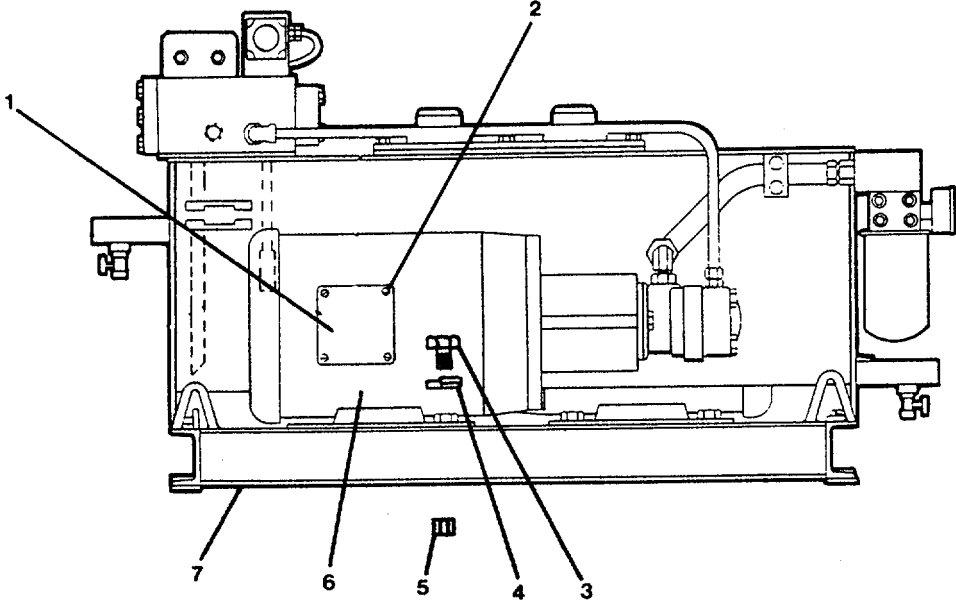

FIGURE 2-9. Remove Electric Motor.
**2-18. Replace Electric Motor. (FIGURE 2-9)**